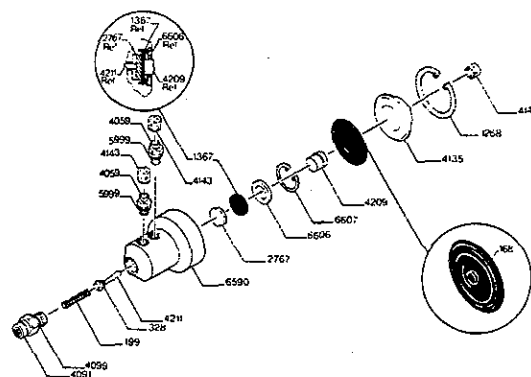

FIGURE 31
- Insert poppet and return spring into CARTRIDGE nose (see Fig. 31) and secure in place with mounting cap and 1/2" open end wrench.
- Reinstall internal components into CARTRIDGE (Fig. 31) per exploded view.